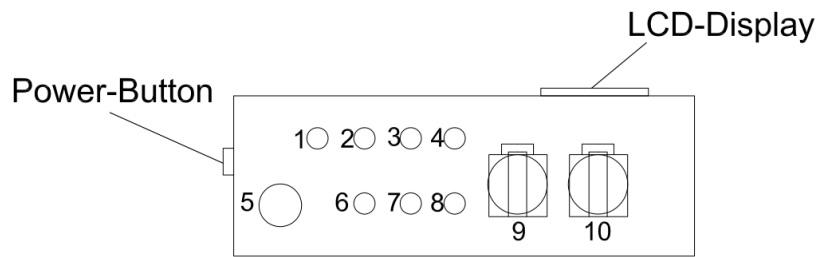

Figure 15: electrical connections at the bottom side of the control unit
- Insert alarm cable through corresponding cable connection at the bottom side of the control unit (please see Figure 15).